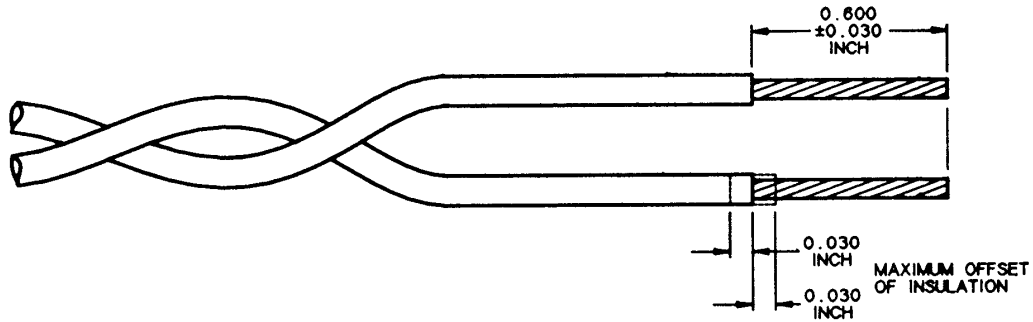

Figure 5-2. Cable Stripping Dimensions
2. Strip the cable to the dimensions shown in Figure 5-2.